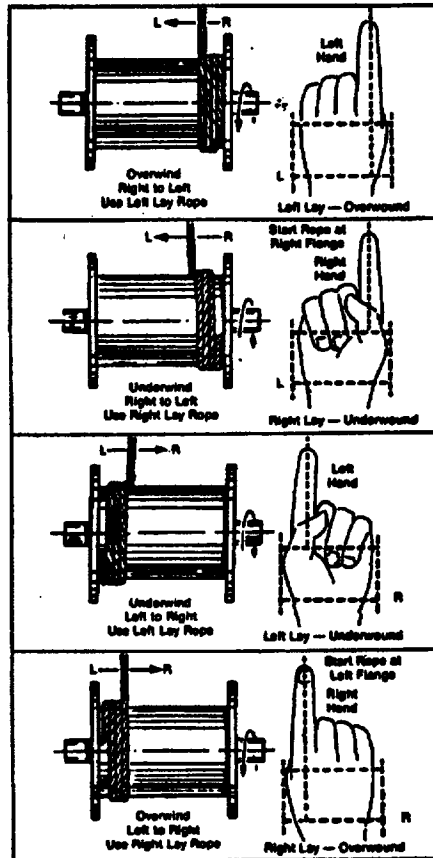

Fig. 2-13 Proper method of locating rope anchorage point on a drum
(5) Left lay rope should be treated in an opposite manner. (See **Figure 2-13** for the "Thumb Rule".)